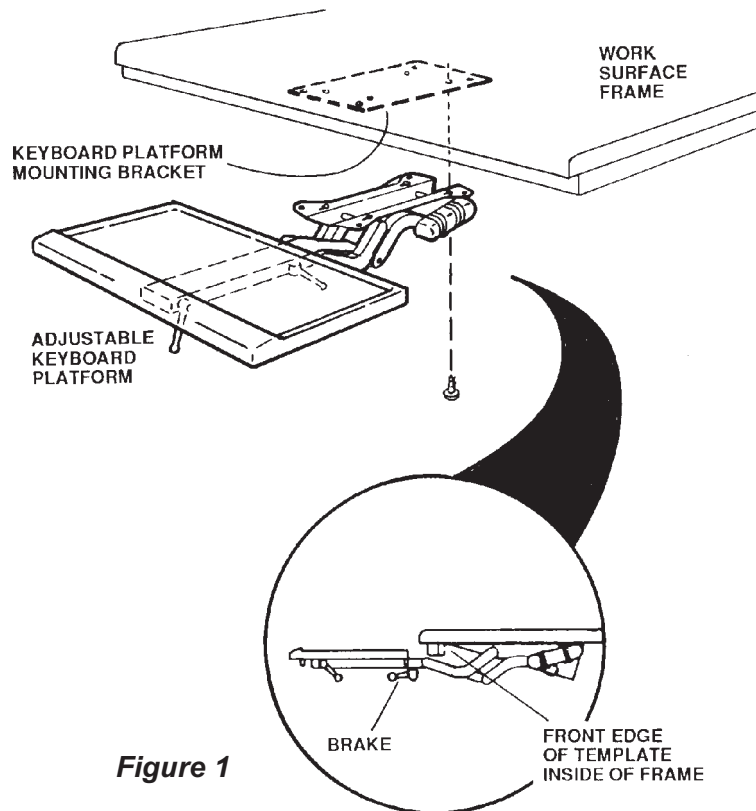

Figure 1
**Caution:** To allow access to mounting screws, it is necessary to adjust tray mechanism. Lock tray in place by tightening brake securely. See Figure 1 explosion.